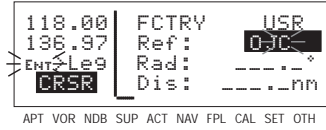

Figure 5-33
6. Use the right inner and outer knobs to select the identifier of the desired reference waypoint (figure 5-33).